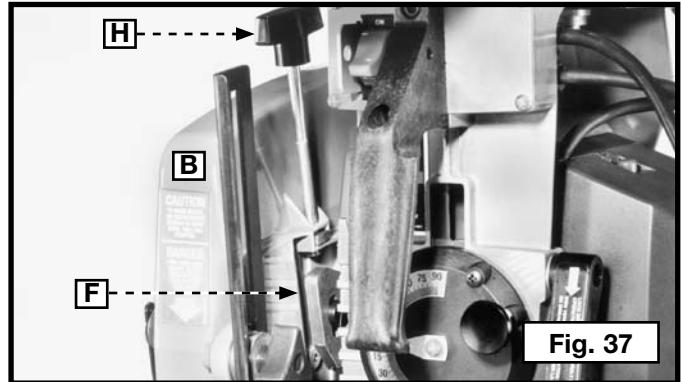
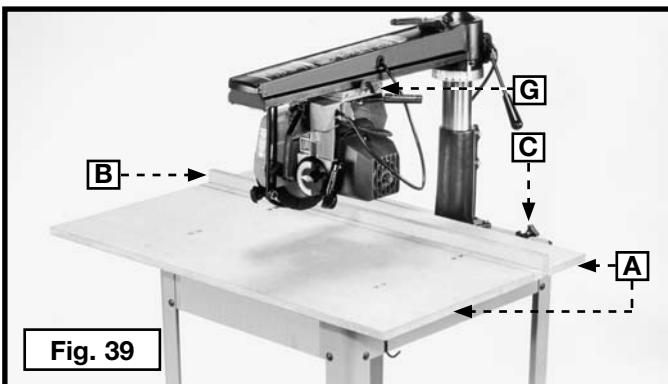

Fig. 37
Fig. 39
4. Lift the cam (F) Fig. 37. Attach the blade guard (B) to the cuttinghead assembly.
6. Rotate the blade guard (B) Fig. 38 to the horizontal position and tighten the clamp knob (H) Fig. 37.
**WARNING** Tighten the clamp knob (H) FIG. 37 and secure the blade guard before operating the machine.
2. Return the cuttinghead (D) Fig. 39 to the rear of the track arm (E). Tighten the cuttinghead clamp knob (G) Fig. 37. Check to see that the switch (H) Fig. 39 is in the "OFF" position and connect the saw to the power source.
3. While holding cuttinghead handle (L) Fig. 39 firmly, turn the switch (H) "ON". Lower the track arm (E) by turning the elevating handle (K). Lower the saw blade until it cuts into the table surface approximately 1/16" deep.